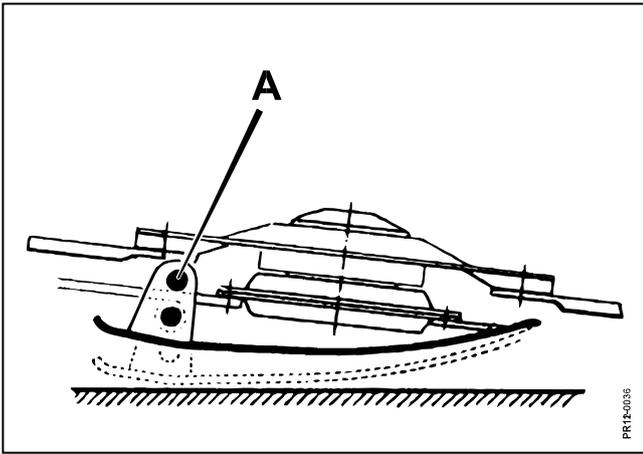

Fig. 3-8
- Fig. 3-8**      2) Adjust **the stubble height** by means of the guide shoes and by adjusting the inclination of the cutter bar.